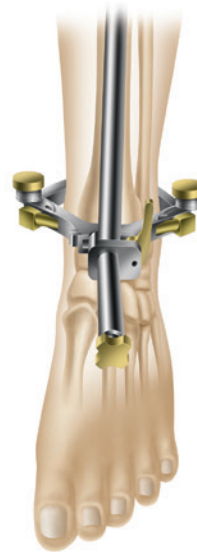

Figure 25
- 1 Place the arms of the extramedullary alignment clamp around the ankle, and adjust the distal M/L slide directly over the middle of the tibiotalar joint, which is also approximated by the second ray of the foot proximal to the malleoli (Figure 25).